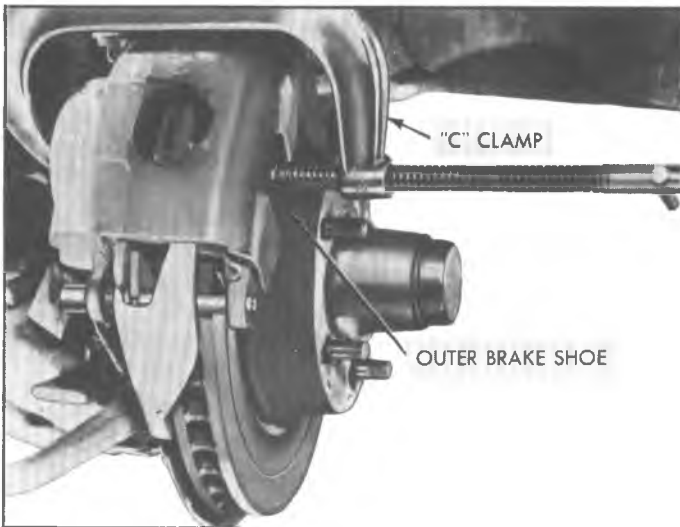

Fig. 53--"C" Clamp for Removal Aid
3. Push the piston back into its bore. This can be accomplished by using a "C" clamp as shown in Figure 53.